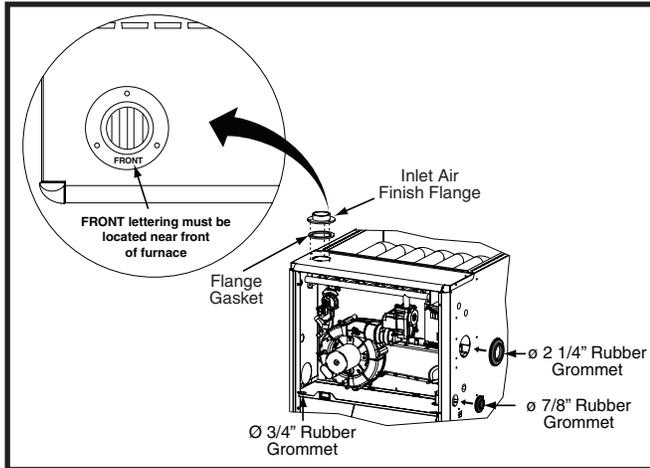
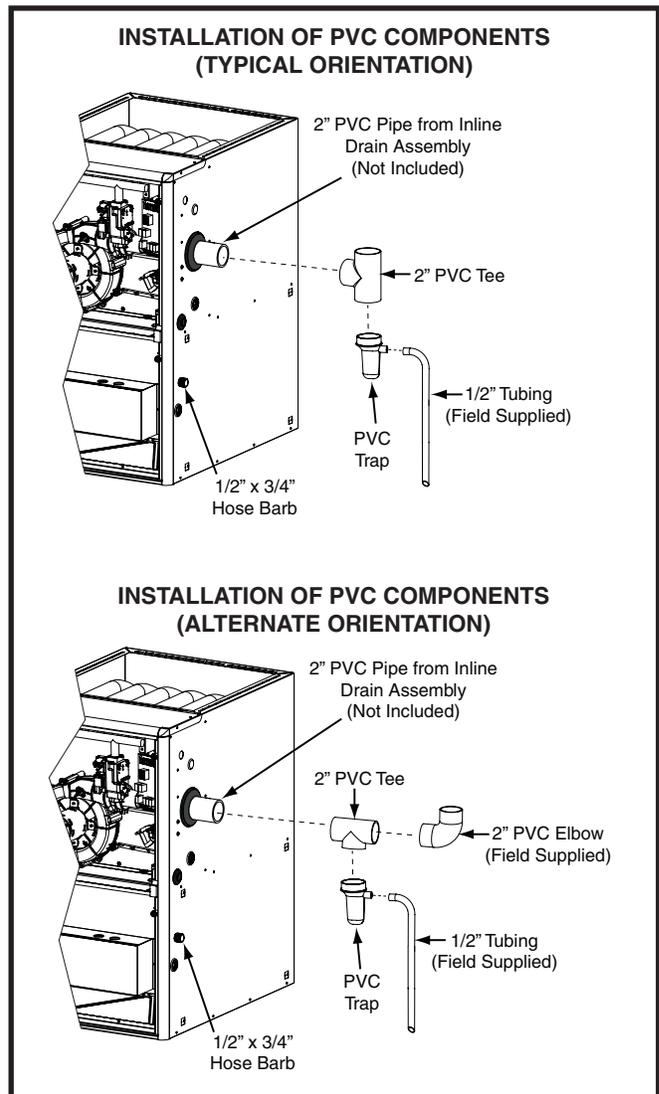

Figure 14. Finish Flange & Rubber Grommets
Figure 15. PVC Components
The components in Figure 14 \(page 18\) & Figure 15 \(page 18\) are included in the extra parts bag supplied with the purchase of \*TE / \*TN furnaces. Depending on your particular installation, some of these components are optional and may not be used. Please refer to the descriptions and accompanying figures when installing these items.
**NOTE:** Make sure the flange is properly oriented so that the FRONT lettering is located near the front of the furnace as shown in Figure 14.
The 2 1/4" rubber grommet is used to seal the opening between the furnace cabinet and the 2" PVC vent pipe. The rubber grommet should be installed in the 3" hole prior to running the vent pipe out of cabinet. No sealants are required. See Figure 14.
- The 2" PVC pipe shown in Figure 15 is not provided in the extra parts bag.
The 2" PVC Tee and Trap are used when the inducer is rotated to vent out thru the left or right side of the furnace cabinet. See Figure 15.
1. Install the PVC Tee vertically on the 2" vent pipe that is extending out the side of the cabinet. Permanently bond them together using appropriate primer and cement. Refer to the typical orientation shown in Figure 15.
1. Install the 2" PVC Tee horizontally on the 2" vent pipe that is extending out the side of the cabinet. Permanently bond them together using appropriate primer and cement. Refer to the alternate orientation shown in Figure 15.